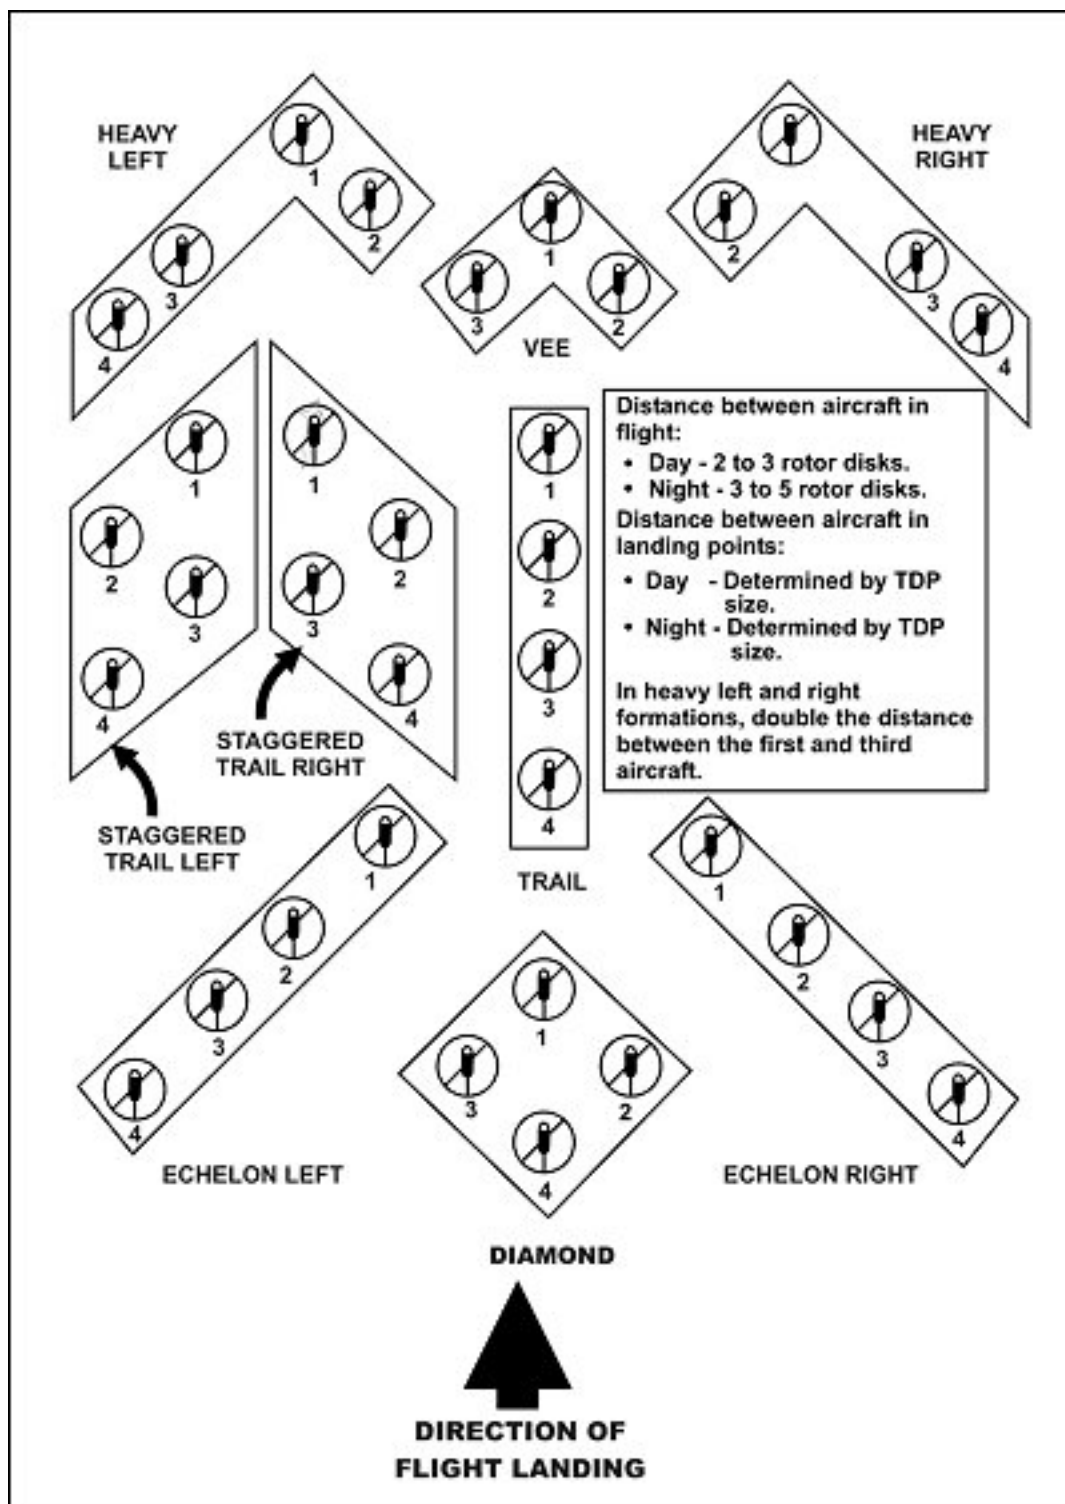

Figure 4-1. Standard flight and landing formations.
- b. **Landing Formations.** Helicopter pilots should try to match the landing formation to the flight formation. Pilots should have to modify their formations no more than necessary to accommodate the restrictions of a landing site (Figure 4-1). However, in order to land in a restrictive area, they might have to modify their formation somewhat.